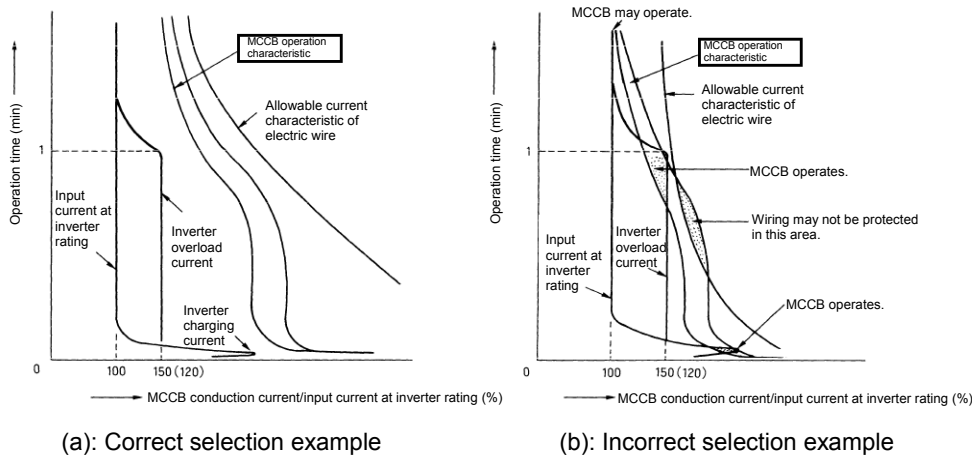

Figure 6.2.12-6: How to select the rated current of molded case circuit breaker (MCCB)
1) An appropriate MCCB should be selected that does not operate (trip) by either the input current or overload current during motor operation and protects the wires reliably. The MCCB operation characteristic curve shown in Figure 6.2.12-6 becomes the boundary line. The right portion shows that the MCCB operates while the left portion shows that it does not operate. Therefore, select an appropriate MCCB so that the right position shows the allowable current of the wire along the MCCB operation characteristic curve while the left portion shows the current during converter/inverter operation.